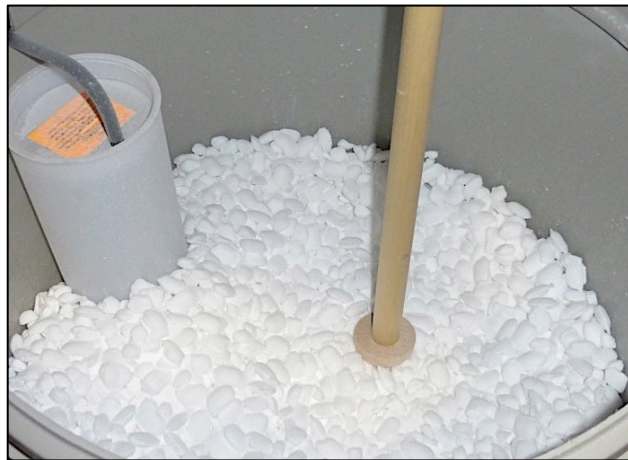

Figure 5: Wooden Dowel Rod with Foot Attachment
- Purchase a wooden dowel rod (approximately 6-8 feet in length, and $\frac{1}{2}$ " – 1 $\frac{1}{2}$ " in diameter). Attach a circular piece of wood to the end (approximately 2-4 inches in diameter), as seen in Figure 5 below.